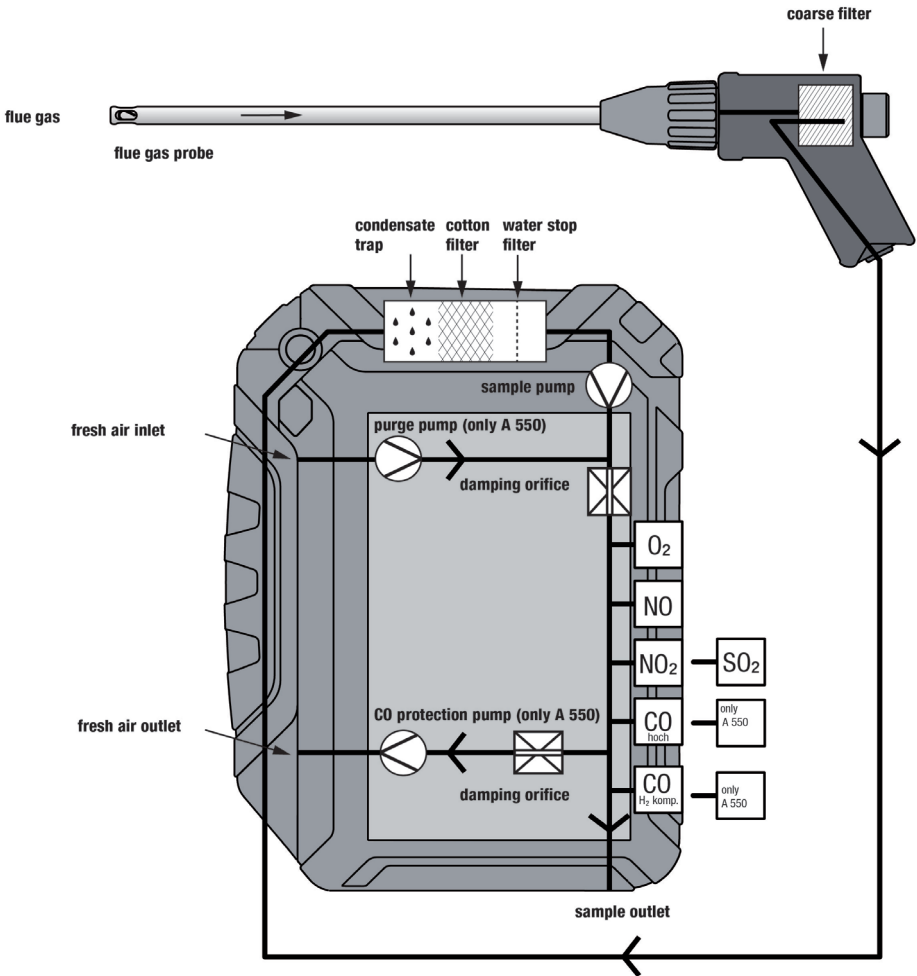

Fig. 18: Gas sampling path Wöhler A 550
- Before the first start up activate the batteries by pushing the transport lock in the probe compartment (see Fig. 18) to the connector, see figure on the left. Use a pointed object to do so.